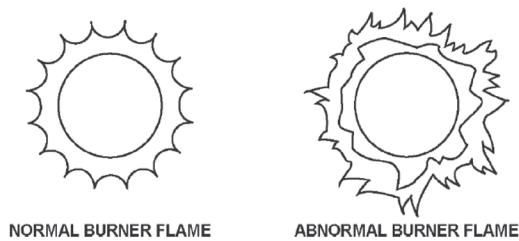

Figure 82. Normal and Abnormal Burner Flames
- Cause no excessive lifting of flame from burner ports. See Figure 82.